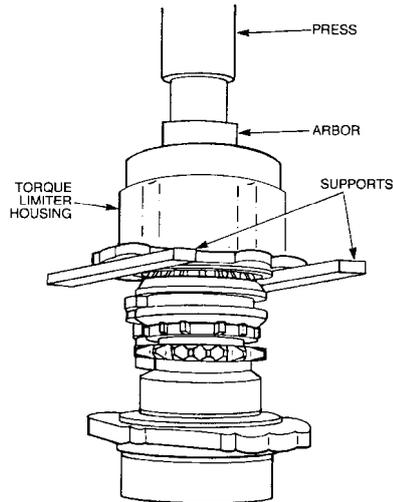

Figure 197 Removing the Shaft Assembly
- h. With the housing appropriately supported and, using a suitable press and arbor, remove the torque limiter assembly from the housing (Figure 197).